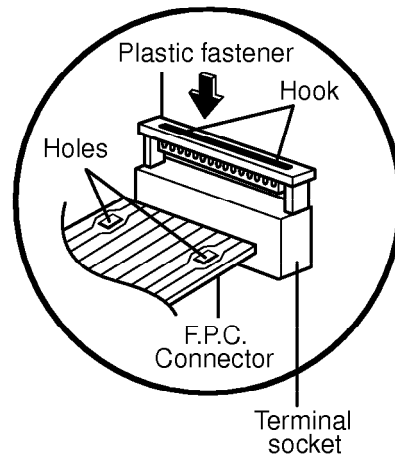

Figure 13
Follow the steps below as illustrated in Figures 13 and 14 to insert the F.P.C. connector.
- (1) Insert the F.P.C. connector into the terminal socket securely with the fingers.
- (2) Hold the plastic fastener with thumb and forefinger of the other hand, and push it slowly into the terminal socket. (Figure 13)
- (3) Lock the level of the plastic fastener into the hook of the terminal socket securely by releasing the fingers.